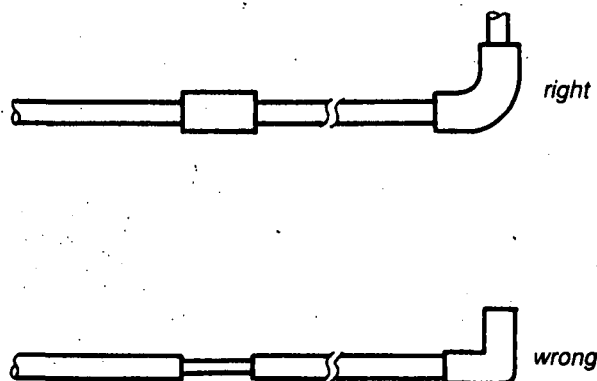

Figure 3
- The internal diameter of the lines, connecting parts and fittings should not be less than DN 8; swept bends should be used instead of elbows, if necessary (figure 3).